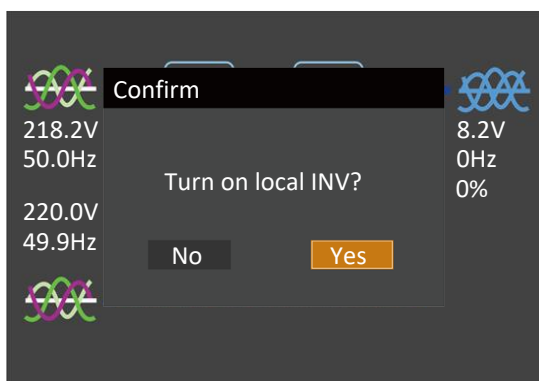
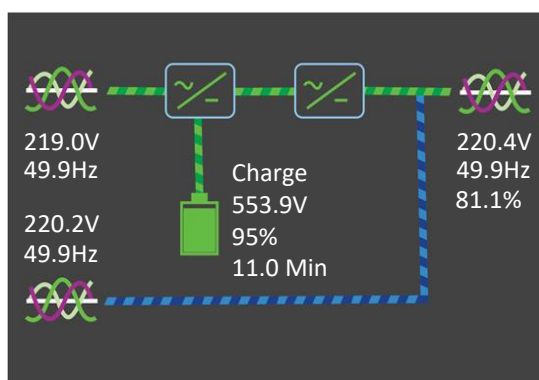

Figure 5-4 Switching the UPS on
Figure 5-5 Flow page appears after inverter on
6. Access the flow page: press the power button, and the LCD prompts a dialogue box, as shown in Figure 5-4. After selecting 'YES', the inverter executes self-check and start-up. After the inverter runs normally, the UPS will transfer to normal mode, and the run indicator will be solid on. See Figure 5-5 for the power flow page.
3. Access the flow page, press the power button, and the LCD prompt a dialogue box, as shown in Figure 5-4. After selecting 'YES', the inverter executes self-check and start-up. After the inverter runs normally, the UPS will transfer to normal mode, and the run indicator (green) will be solid on.